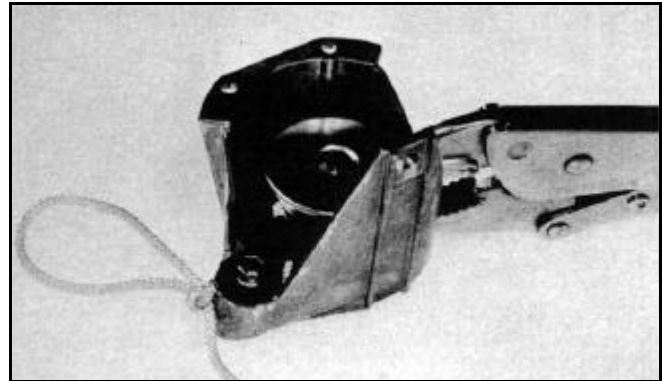

Figure 232
2. Fully extend the recoil starter rope and align the cut out sections of both the rope pulley and the metal pulley cover (Figure 232).